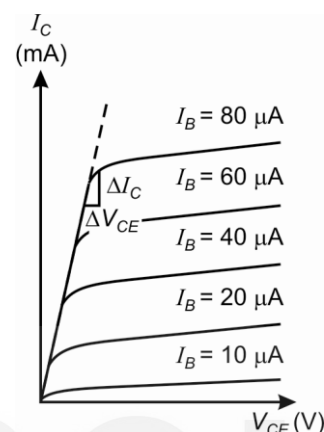

Fig. 7.5: Typical output characteristics of a transistor.
5. Plot V_{CE} versus I_C for different values of I_B . Draw smooth curves for each I_B . These are the output characteristics. Typical output characteristics of a transistor are shown in Fig. 7.5.